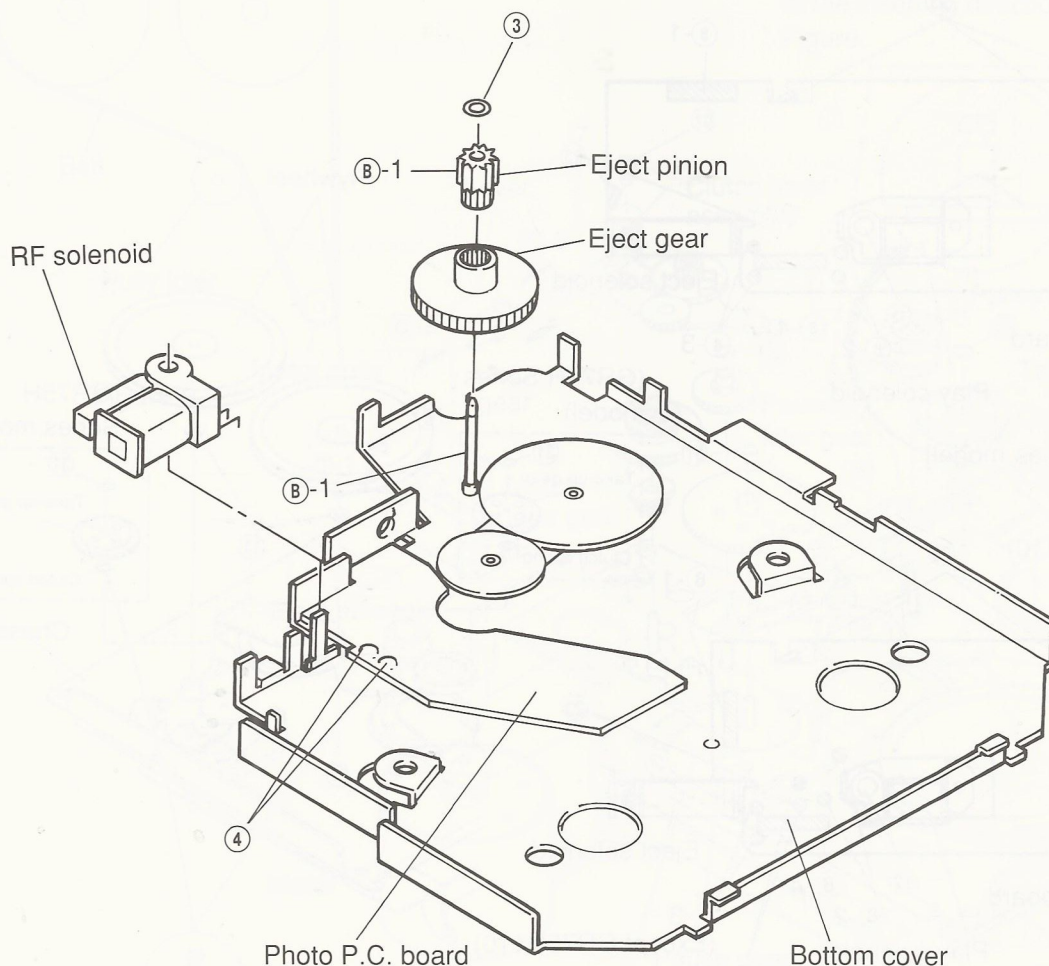

Figure 6
- (1) Remove M1.2 lock washer ③ as shown in Figure 6.
- (2) Pull the eject pinion out of the eject gear and remove the eject gear as shown in Figure 6.
- (3) Apply the molykote E paste to the section B-1, and mount the eject gear following the removal steps in the reverse order. After replacement is finished, make sure that the gear rotates smoothly. (Refer to Figure 6.)
- (1) Remove two solders ④ and remove the RF solenoid from the bottom cover by pulling it up as shown in Figure 6.
- (2) Replace the solenoid with a new one, and remount it following the removal steps in the reverse order as shown in Figure 6.
**Note:** When removing solder ④, set the temperature of the soldering iron to  $350^{\circ} \pm 10^{\circ}$  and the soldering time to 1 – 3 seconds. Take care that the solder is not loose, that there is no shortcircuit and that the coating is not damaged.